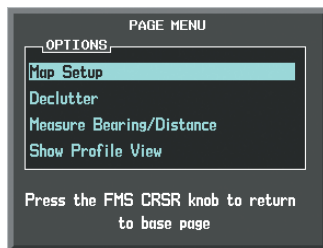

Figure 6-35 Navigation Map Page Menu
- 3) With Map Setup highlighted, press the **ENT** Key (Figure 6-35).